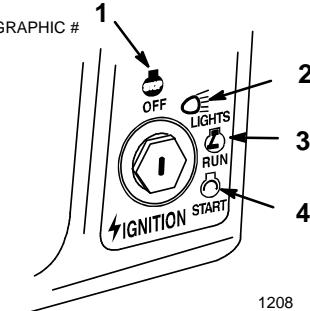

Figure 6
7. Turn the ignition key clockwise and hold it in the "START" position (Fig. 6). When the engine starts, release the key.